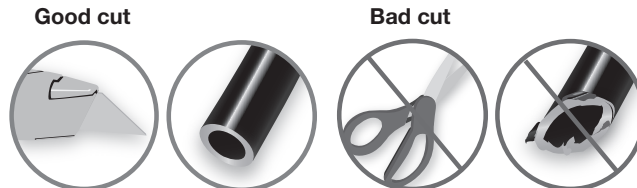

Fig. 14
2. If installing a single-path air line, choose a location for the tee fitting on the wheel well or rear bumper. Determine and cut adequate length of air line (D) to reach to the tee from left and right side air springs. Make clean, square cuts with a razor blade or hose cutter (Fig. 14). Do not use scissors or wire cutters.